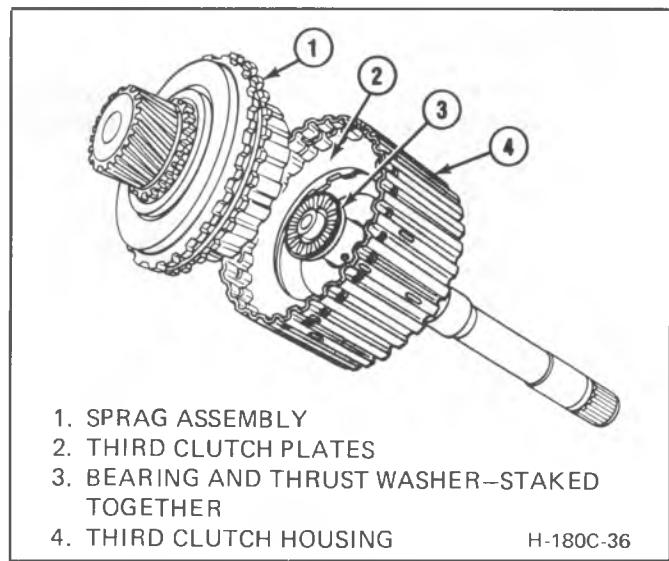

Figure 28 Third Clutch
**Assemble (Figure 28)**
Assemble (Figures 28 and 31)